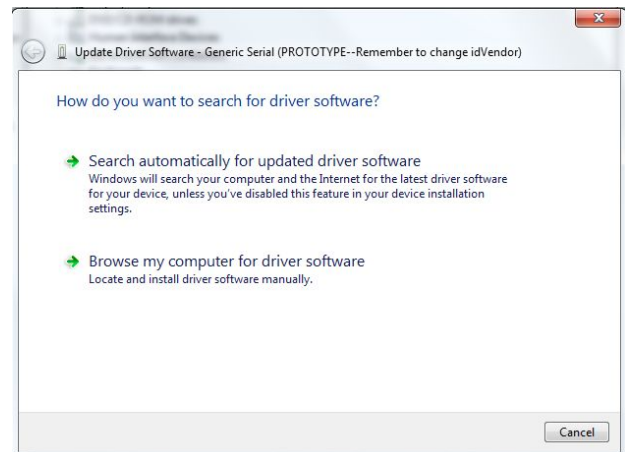

Figure 1-2
3.Start up the touch screen, plug USB data cable in a PC, then prompt "Found New Hardware" and pop-up "Found New Hardware Wizard" dialog box, shown in Figure 1-2: